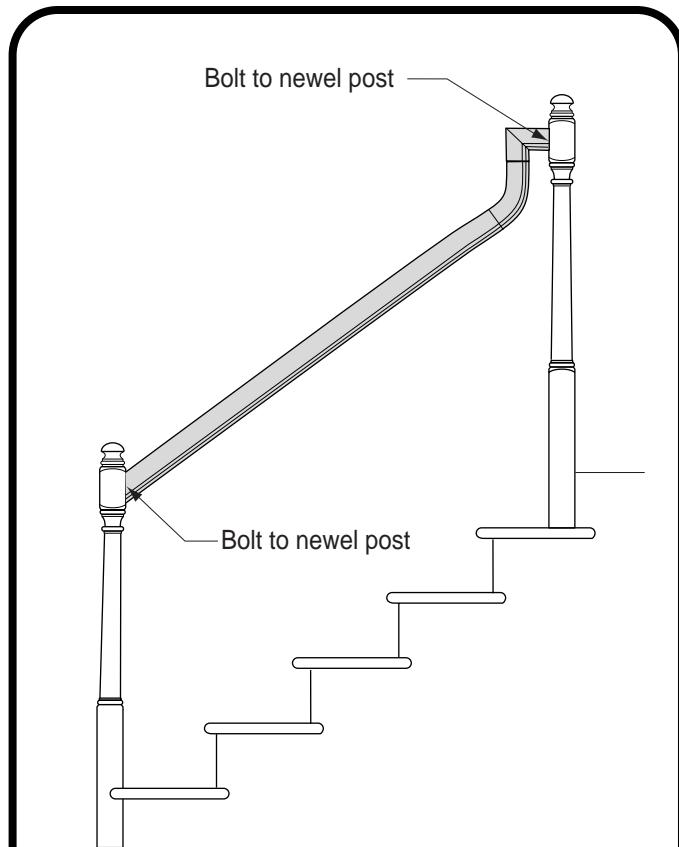

Fig. 4-17 Bolting rail to newel posts.
17. Raise rail up to the proper rail height and bolt each end to the newels. Please note Fig. 4-17 here.